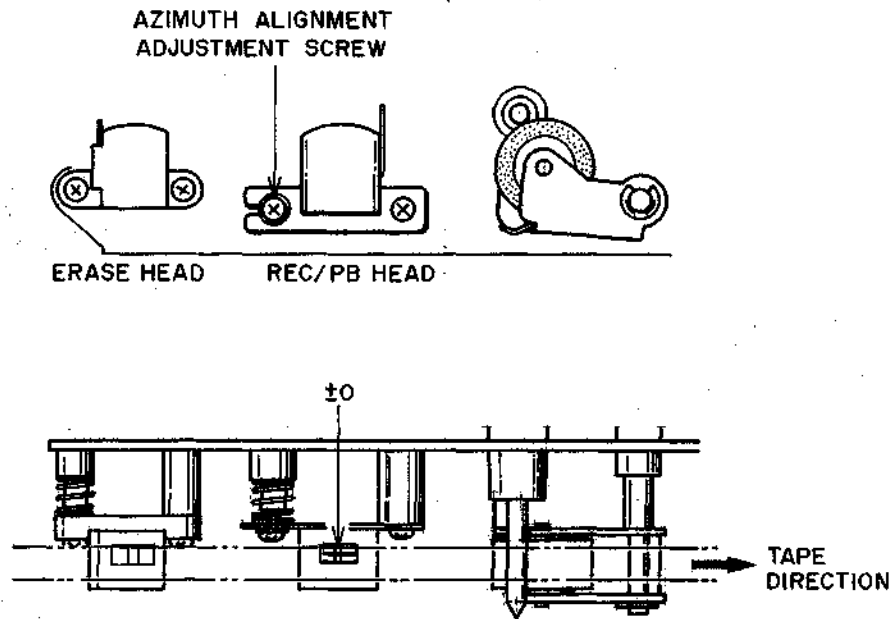

Fig. 9 Head Adjustment
- a) Playback a 10 kHz pre-recorded cassette azimuth alignment test tape and adjust screw shown in Fig. 9 to obtain maximum output on both channels.